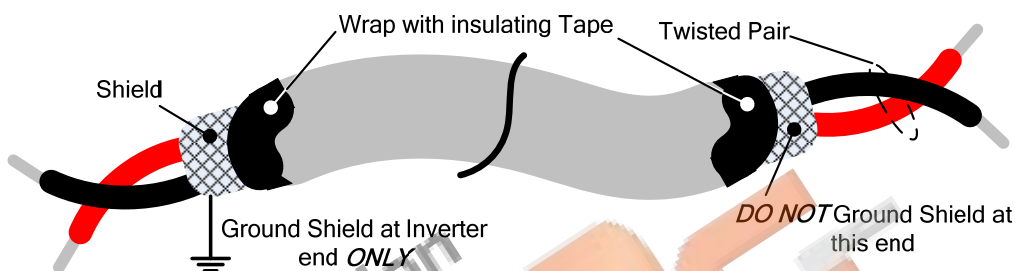

Fig. 3.17.1 Shielded Twisted-Pair
- (1) Separate the wiring for control circuit terminals from main circuit wiring for terminals (R/L1, S/L2, T/L3, U/T1, V/T2, W/T3).
- (2) Separate the wiring for control circuit terminals R1A-R1B-R1C (or R2A, R2C) (Relay outputs) from wiring for terminals ① - ⑧, A01, A02, GND, DO1, DO2, DOG, +12V, (-12V), A11, A12 and GND wiring.
- (3) Use shielded twisted-pair cables (#24 - #14 AWG / 0.5 -2 mm²) shown in Fig. 3.17.1 for control circuits to minimize noise problems. The maximum wiring distance should not exceed 50m (165 ft).